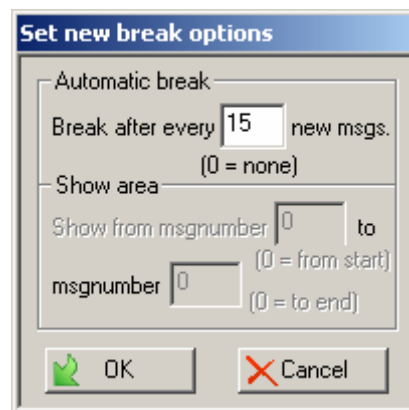

Figure 141 Setting break options for the rendering process
By setting a breakpoint the dialog box shown in Figure 141 will be displayed.
- "New breakpoints": specifies breakpoints for the rendering process. See Figure 141.